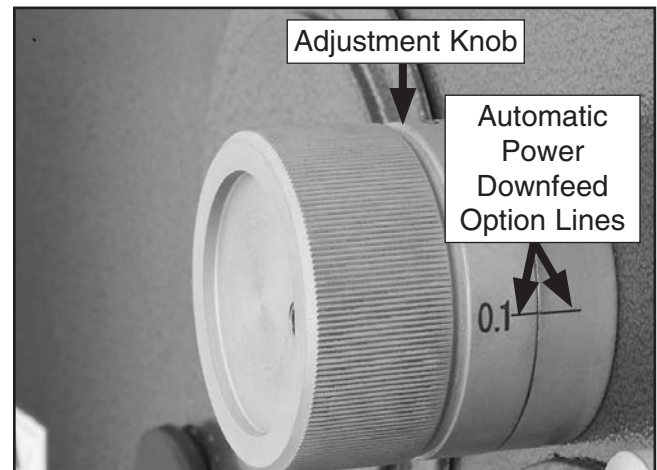

Figure 23. Automatic downfeed adjustment knob.
4. Match the lines on the adjustment knob to select an automatic power downfeed option (see **Figure 23**).